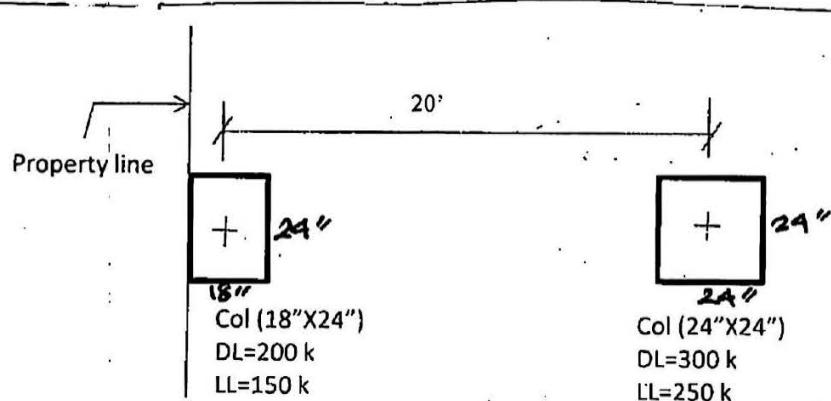

Fig. 5
7. (a) A 15" concrete wall supports a dead load, $DL = 16 \text{ kip/ft}$ and a live load, $LL = 12 \text{ kip/ft}$. The allowable bearing capacity of soil is 4000 psf at the bottom level of footing which is 5ft below grade. Design the footing of the concrete wall with $f'_c = 3000 \text{ psi}$ and $f_y = 40000 \text{ psi}$. Check development length. (21)
(b) Select the length and width of the combined footing supporting two columns as shown in Fig. 5. The bottom of the footing is 6 ft below grade where allowable bearing capacity is 5000 psf. The outer end of the combined footing cannot protrude beyond the outer face of exterior column which coincides with property line. (14)
3. (a) Why ' ϕ ' factor is different in column & in beam? (5)
- (b) A 15×20 inch column is reinforced with eight No. 9 bars as shown in Figure 5. Construct the nominal strength interaction diagram for the column with five points corresponding to pure axial load, pure bending, balance condition, $\epsilon_s = 0.001$ (tensile) and $\epsilon_s = 0.004$ (tensile). Also, find corresponding ϕ for the above points. Assume bending about major/strong axis. Given: $f_c' = 4$ ksi, $f_y = 60$ ksi and $E_s = 30000$ ksi. (30)